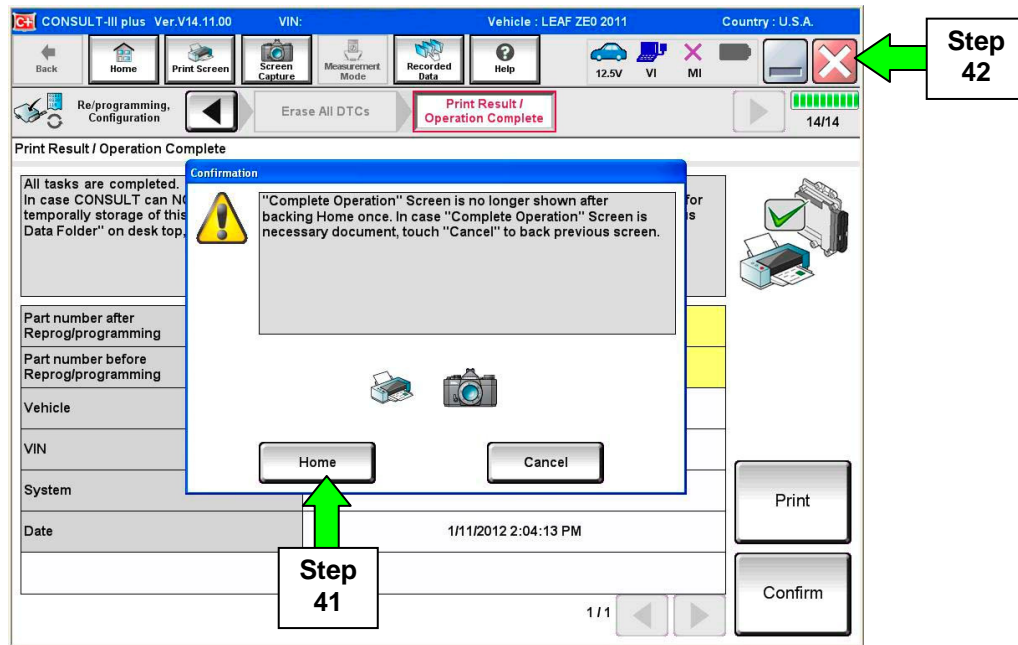

Figure 39
42. Close C-III plus by selecting “X” in Figure 39.